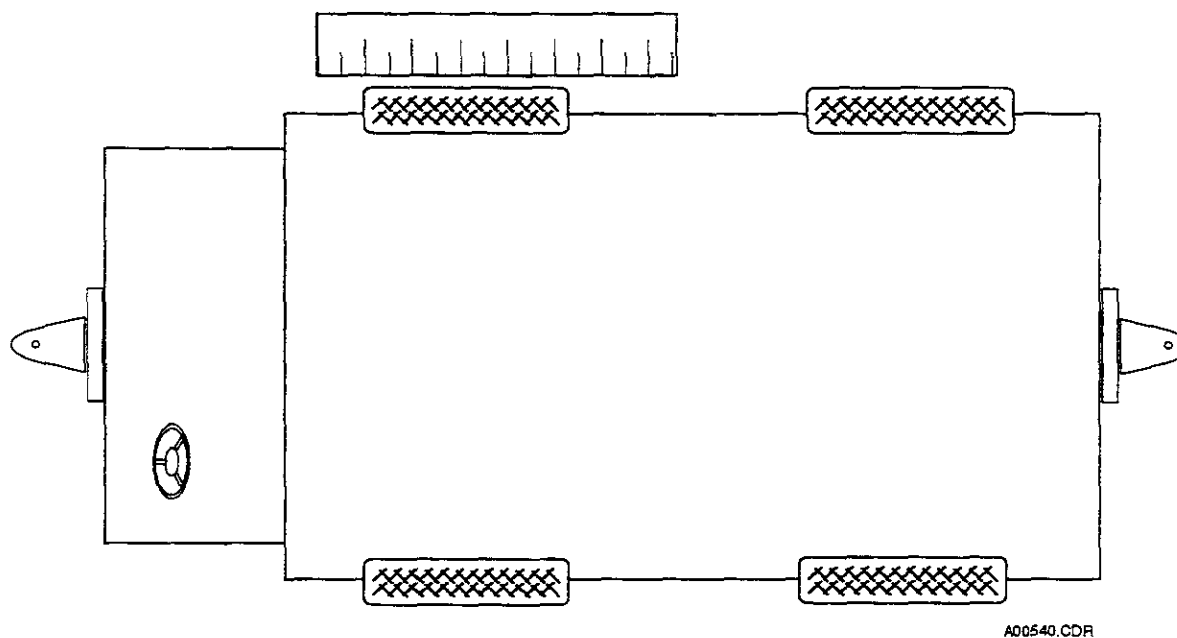

FIGURE 6.4 WHEEL ALIGNMENT
(1) Lift tractor off ground (if possible). If not, lubricate tires with liquid soap for ease of turning wheels.
(2) Disconnect front cable (1) from clutch (2).
- (3) Disconnect rear cable (3) from proportional valve arm (11).
(4) Start tractor. Place switch in COORD mode. Align front passenger wheel with outside of wheel well by turning steering wheel (Figure 6.4).
(5) Disconnect TRACK solenoid valve (5) from terminal board (6). Disconnect wire marked ST2 from slot 4 on terminal board. This will activate both TRACK and COORD clutches.
- (1) Start engine.
- (2) To center the rear wheels, place the steering mode selector switch in the TRACK position. Align rear wheels with outside of wheel well (Figure 6.4).
- (3) Shut down the engine.
- (4) Disconnect front axle cable end (1) from bellcrank (2) located on CRAB (3) and COORD (4) clutches.
- (5) Disconnect rear axle cable end (5) from output lever (6) of proportional valve (7).
- (6) Tag track solenoid wiring for identification and disconnect from terminal board.
- (7) Start tractor engine.
- (8) With engine running, position bellcrank (2) squarely atop the CRAB (3) and COORD(4) clutches.
- (9) Disconnect both ends of the COORD cable (8) and the CRAB cable (9).
- (10) Slide each cable in or out of its cable housing until an equal length of cable protrudes from each end of cable housing.
- (11) Adjust length of each cable end and reinstall in original position.
- (12) Connect front axle cable (1) to bellcrank (2).
- (13) Manually align rear wheels (Figure 6.4) by moving output lever (6) of proportional valve (7).
- (14) Connect rear axle cable (5) to output lever of proportional valve.
- (15) Connect Track Solenoid Wiring.
- (16) Operate and check steering for proper operation.